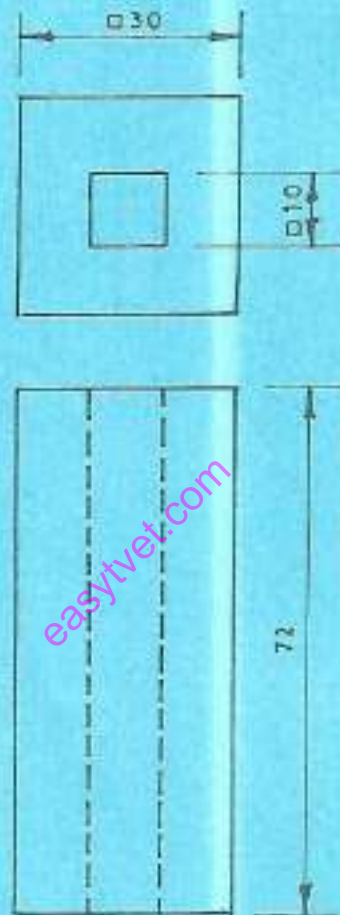

Fig. 2
7. Figure 2 shows a plan and elevation of a solid square section with a square hole running through the centre. Using the figure, draw the following types of sections: